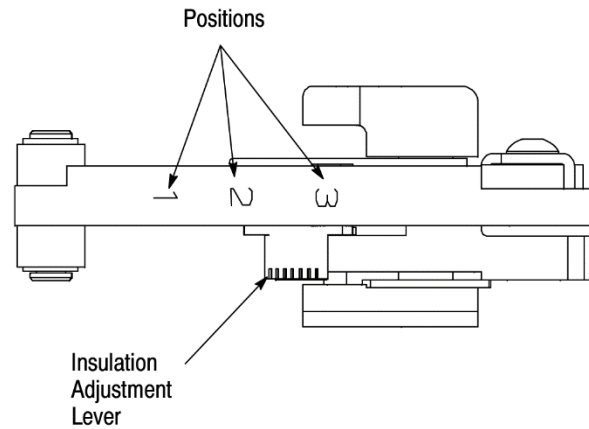

Figure 5
1. Adjust the insulation levers to the No. 3 position (see Figure 5).
The insulation crimping section of the crimping head has three positions: 1-Tight; 2-Medium; and 3-Loose (see Figure 5).
1. Perform insulation crimp adjustment by placing adjustment levers in position No. 3 (loose), as shown in Figure 5.